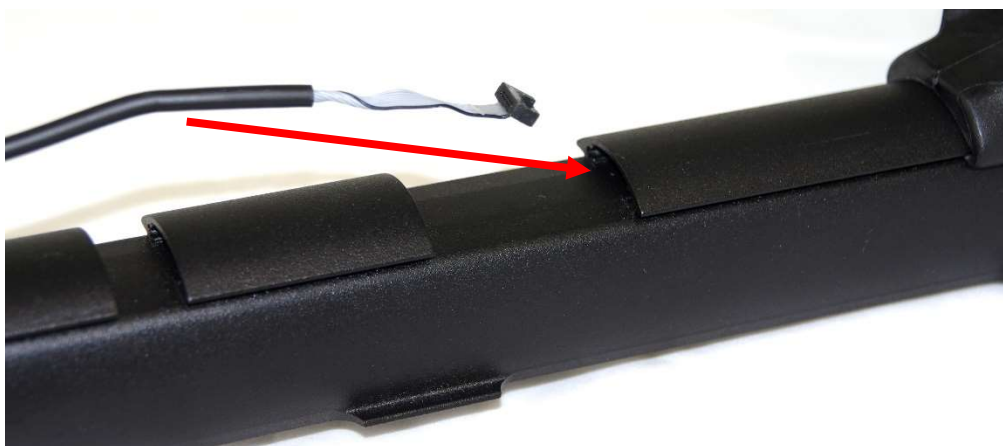

Figure 52: Inserting wiring loom.
- With a new wiring loom, gently push the cable (connector first) through the spine of the upper shaft emerging at the opening at the end of the upper shaft. Shown in Figure 52